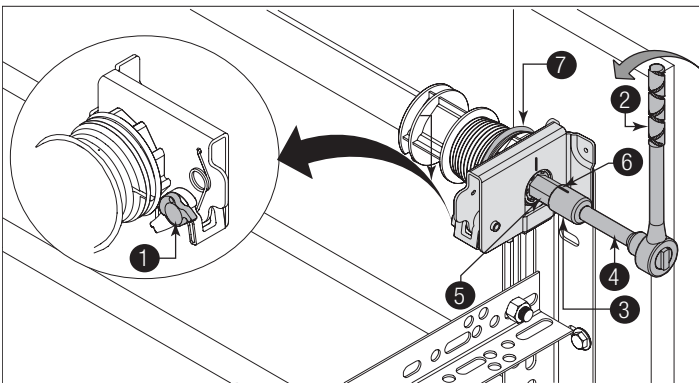
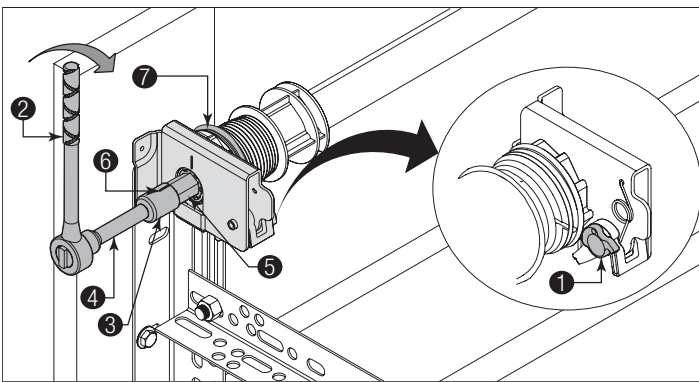

Figure 52, Right Side
Figure 53, Left Side
**See Figures 52 and 53 for the following steps.**
WHEN WINDING SPRING(S), ENSURE YOU ARE WINDING IN THE PROPER DIRECTION, AS SHOWN IN FIGURE 52 AND FIGURE 53. ENSURE THE RATCHET WRENCH WINDS THE SPRING CLOCKWISE FOR LEFT HAND SPRING. ENSURE THE RATCHET WRENCH WINDS THE SPRING COUNTERCLOCKWISE FOR RIGHT HAND SPRING.